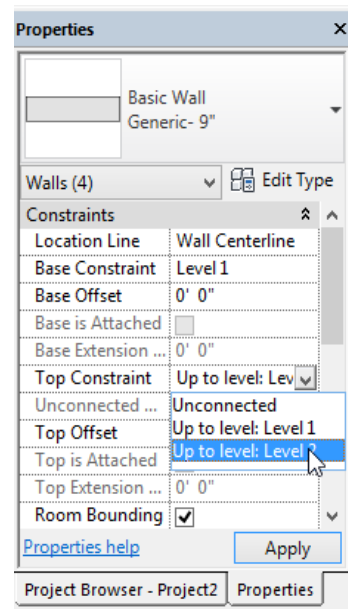

Figure 3-58 Setting the Top Constraint parameter using the Properties Palette
- Invoke the **Rectangle** tool and then sketch the exterior walls based on the given parameters, refer to Figures 3-58 through 3-62.
1. In the **Properties** Palette, ensure that the **Location Line** parameter has **Wall Centerline** as the default value. Click in the value field of the **Top Constraint** instance parameter; a drop-down list is displayed. Select **Up to Level: Level 2** from the drop-down list displayed, as shown in Figure 3-58 and choose the **Apply** button.